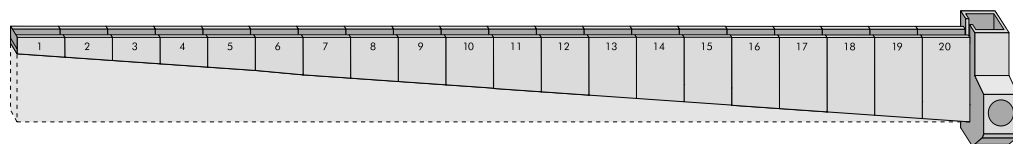

Fig.13
- Where insufficient fall is present, inbuilt fall or transition Channels allow the creation of an artificial valley with either a gully at the centre or at each end of a drainage run (Figs. 13 & 14 opposite)